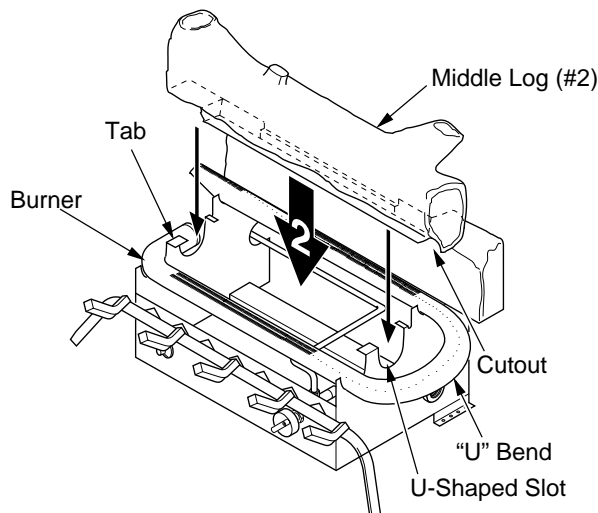

Figure 20 - Installing Middle Log (#2)
- Place the base of the middle log (#2) in the U-shaped slots of the grate base in front of the back log. The cutout on the right of the middle log should fit over the burner (see Figure 20). Make sure the front of the middle log is resting on the tabs of the grate base and the cutout area is centered over the burner "U" bend.